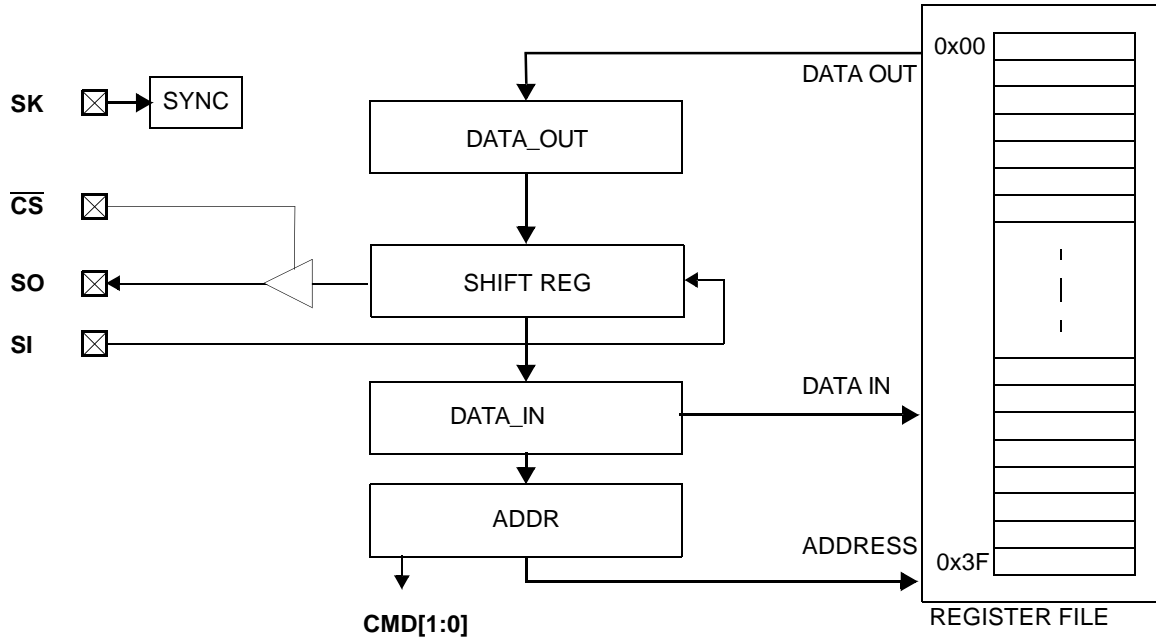

Figure 10. MICROWIRE Interface Block Diagram
IRE/PLUS mode uses pins called chip select ( $\overline{CS}$ ), serial clock (SK), serial data in (SI), and serial data out (SO), as shown in Figure 10.